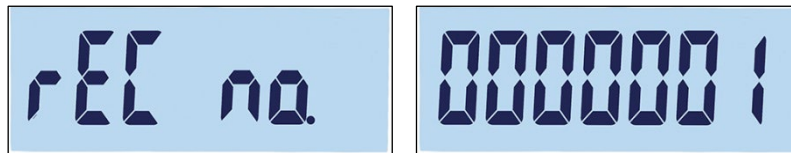

Figure 3-45: Record Number Label and Record Number Setting Screens
2. rEC no. appears briefly, and then the record number editing screen (Figure 3-45). The terminal can save up to 10 records. By default, the system offers the next available number.